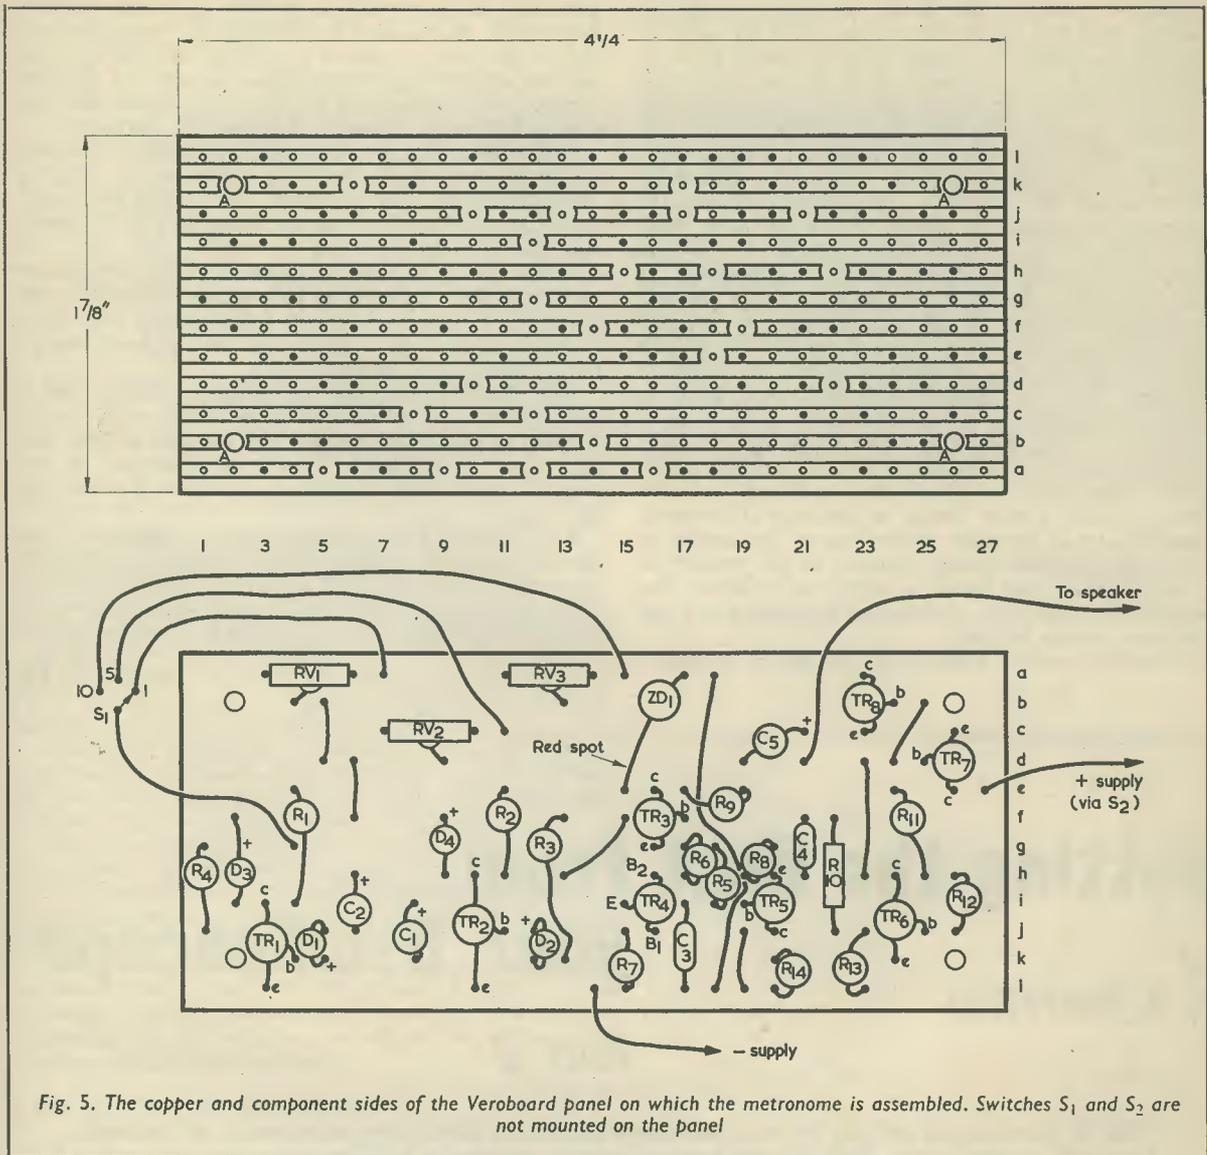

Fig. 5. The copper and component sides of the Veroboard panel on which the metronome is assembled. Switches S_1 and S_2 are not mounted on the panel
- Veroboard panel, 0.15in matrix, 1 7/8 x 4 1/2in (see Fig. 5)
Start construction by cutting the Veroboard panel to size and then drill the four small mounting holes, to clear 6BA screws, as shown in Fig. 5. Now break the copper strips, with the aid of a small drill or the special cutting tool that is available, where indicated. Cut back the copper from around the four mounting holes, to prevent the possibility of short circuits to the mounting screws if the unit is fitted to a metal chassis or panel.